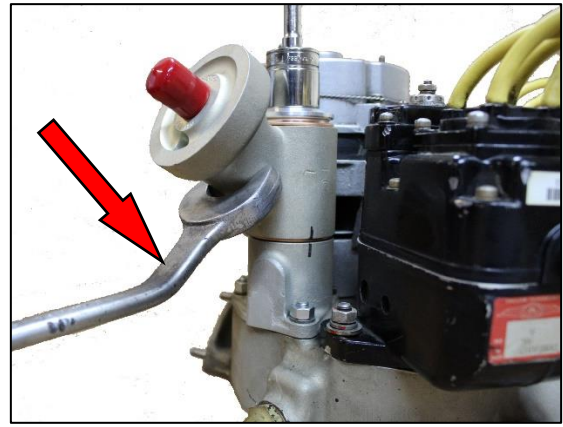
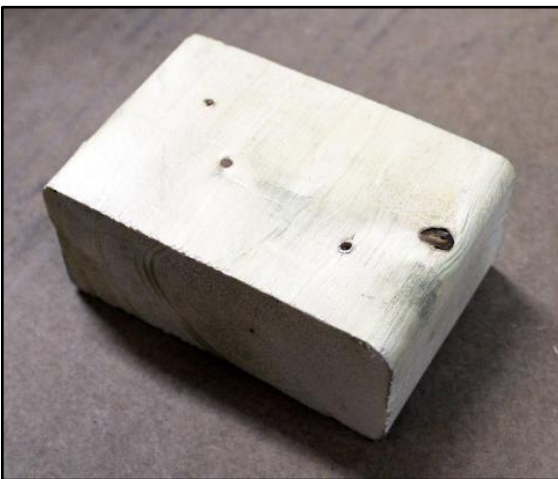

Figure 5
Figure 6
6. To prevent the sleeve from turning when the spool is tightened, fabricate a suitable wooden block to insert between the filter adapter and a point of resistance on the engine or airframe or, use a 1 ¼ inch open end wrench on the sleeve just below the filter mount flange as shown in Figure 5 to prevent the sleeve from rotating while tightening the filter adapter to its final torque. Because installations differ, the block you need may not look exactly like the exemplar block shown in Figures 6 & 7. However, if a block is used, it should fit snugly between the edge of the filter mount flange and an adjacent structurally sound part of the engine or airframe that can resist the forces encountered without being damaged when the spool is tightened. If a wrench is used, it may need to be bent to fit your installation.